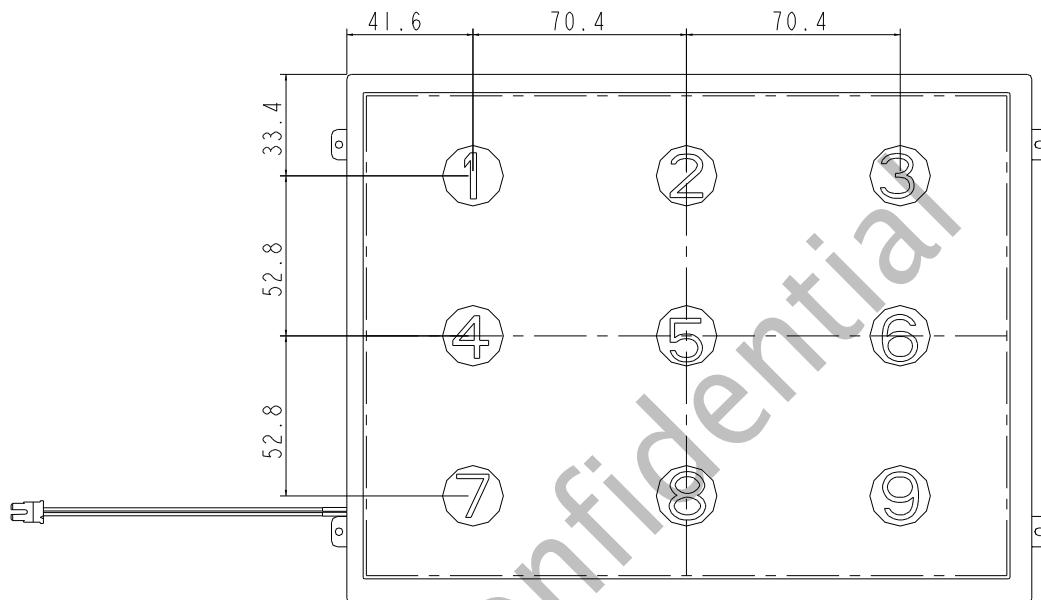

Fig7-1 Measuring point
*3) Definition of luminance : Measure white luminance on the point 5 as figure7-1
Definition of Luminance Uniformity: Measure white luminance on the point1~9 as figure7-1